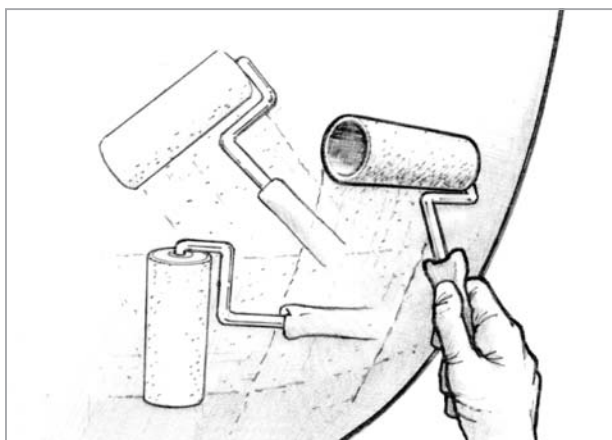

Figure 18 Using a foam roller, apply the epoxy and spread it into a thin even film.
4. Transfer the epoxy evenly to a small area. Roll lightly and randomly over an area approximately 2' x 2' (Figure 18).